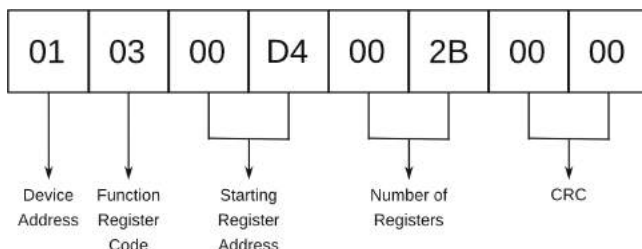

Figure 24: Example Modbus-Rtu Query Format
6. It is recommended that all registers given in Figure 24 be queried. Ideally this should be done using a single query, as shown in Figure 24.